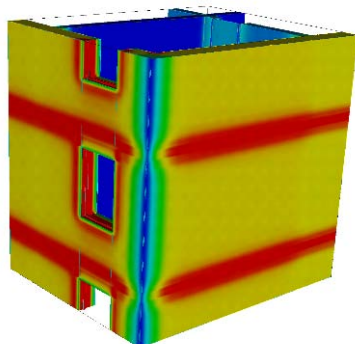

Fig. 2 3D finite-element model calculation of heat loss. Red is highest heat flux.
- (b) **Non-repeating**, e.g. details around windows & doors, cantilevered balconies, or junctions between façade areas (Fig.10a & red areas of Fig.2),
- (c) **Geometric**, i.e. angled intersection of two planes, which leads to a difference in area of the outside and inside surfaces of the façade (e.g. Fig.10b & blue corner of Fig.2)